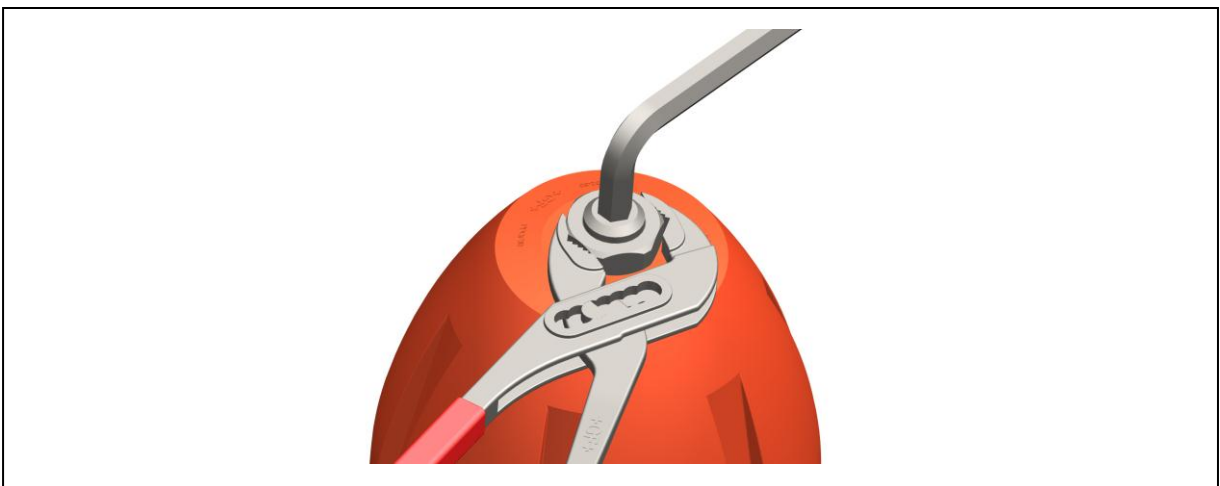

Fig. 6
- Fix the spindle with Allen wrench and simultaneously tighten the locking nut with a suited tool, see Fig. 6